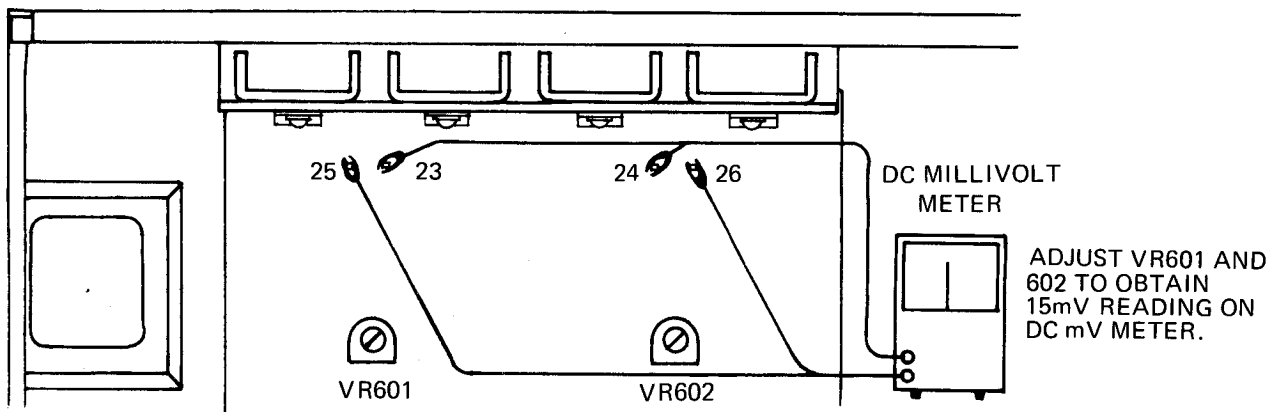

Fig.1 IDLING CURRENT ADJUSTMENT HOOK-UP
2. Adjust the VR601 to obtain a 15 mV reading on the DC milli-volt meter (See Figure 1)